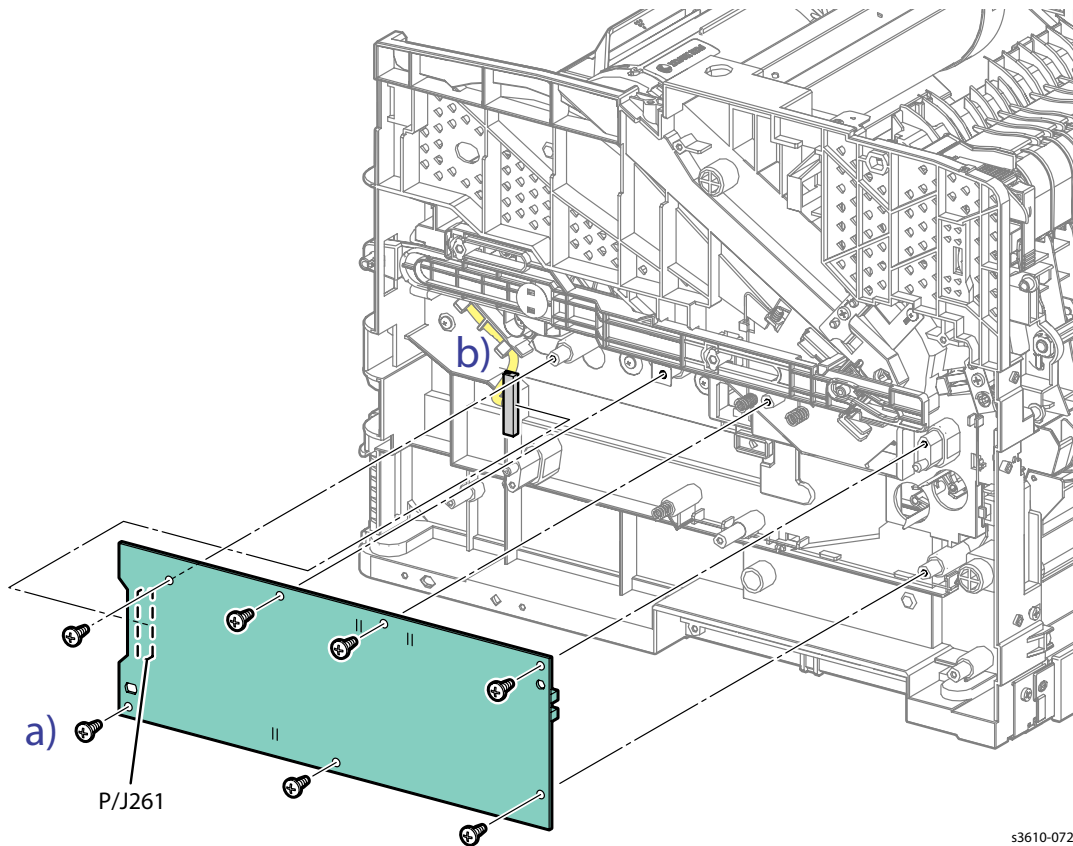

Figure 1
6. Remove the HVPS. (Figure 1)